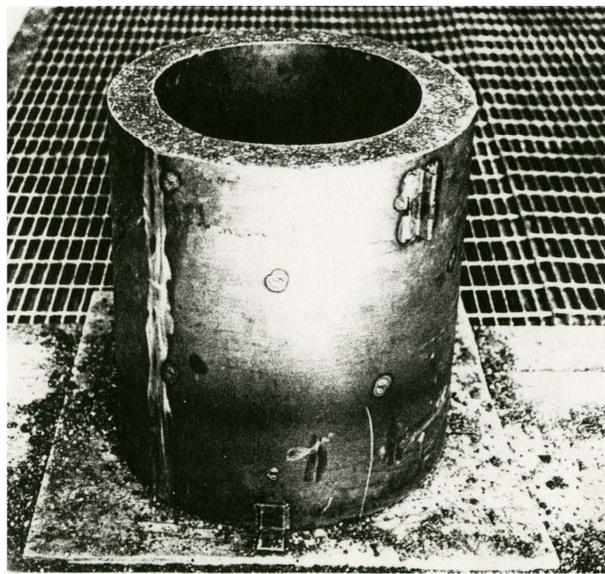

Fig. 4. Stack section properly rammed with refractory.
3. Bring just up to top of liner forms, leveling carefully. Repeat this procedure for both the well and stack sections. See Fig. 4.